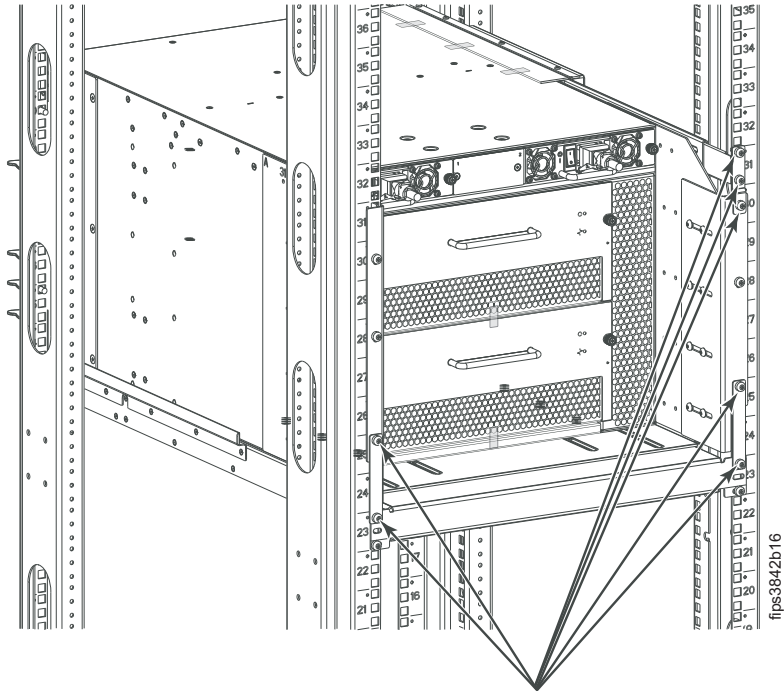

Figure 48. 2499-416 rackmount screw removal (non-port side view)
1. Remove the seven rackmount screws that are needed to secure the upper and lower FIPS brackets to the chassis, as shown by the arrows in Figure 48 on page 47.